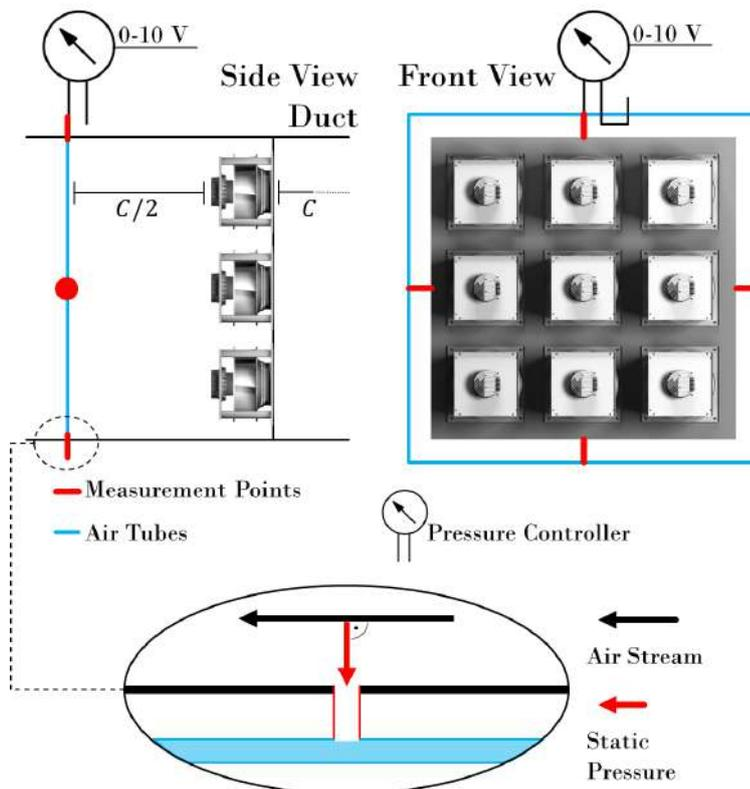

Figure 15: Measurement of the Static Pressure
Constant Pressure Control is applied in cases where a System must maintain a specific Static Pressure at various Operating Points. In Fig. 15 the components to set-up a Rosenberg EC-FanGrid have been indicated, which connect to a remote 'Static Pressure Transducer with Controller'.
Fig. 15 shows a typical setup for an excess pressure control. The Duct has (4) measurement points, at the mid-point of each side. This protocol is supported through DIN EN ISO 5801:2008(D), page 34. In Addition this Standard recommends maintaining a minimum distance of C respectively $C/2$ between the measurement point and the outlet (Excess/Positive Pressure Control) or Inlet (Negative Pressure Control) of the Fan. C for the calculation refers to the Duct Diameter. The diameter of a rectangular or square duct is the square-root of the duct height and width. Precisely it is $C = \sqrt{a^2 + b^2}$. The configuration, which was tested in the laboratory got a square 1,89x1,89 m (6.2x6.2 ft.) duct. The equation leads in the example to $C = \sqrt{1,89\ m^2 + 1,89\ m^2} = 2,67\ m$ and $C/2 = 1,34\ m$. In practice, this is a good initial value. However in cases, where it is not possible to hold the recommended distance, this value must be reduced. Rosenberg is able to give individual recommendations for the asking. The reason for the distance is to try to avoid to measure at turbulent air flows, which are existent direct before and after the Fans. Again regarding accuracy – the measurement tubes must be mounted perpendicular to the Air Stream as indicated in Fig. 15. If the tubes are not accurate perpendicular, the readings will provide shares of Dynamic instead of pure Static Pressure readings. This will result in wrong Operating Points.